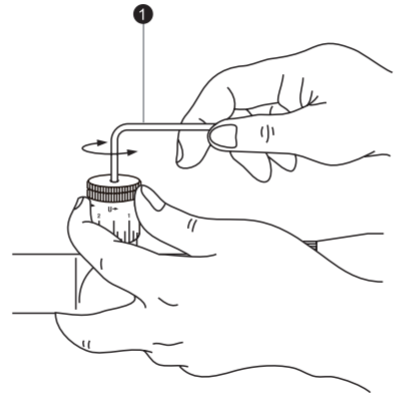

Fig. 3-7
With the turret/easy grip held with your fingers to avoid shifting of the aligned scale ring, turn the screw in the top of the turret/easy grip counter-clockwise with the supplied hex key (1) until the screw comes out. Then remove the turret/easy grip (Fig. 3-7).